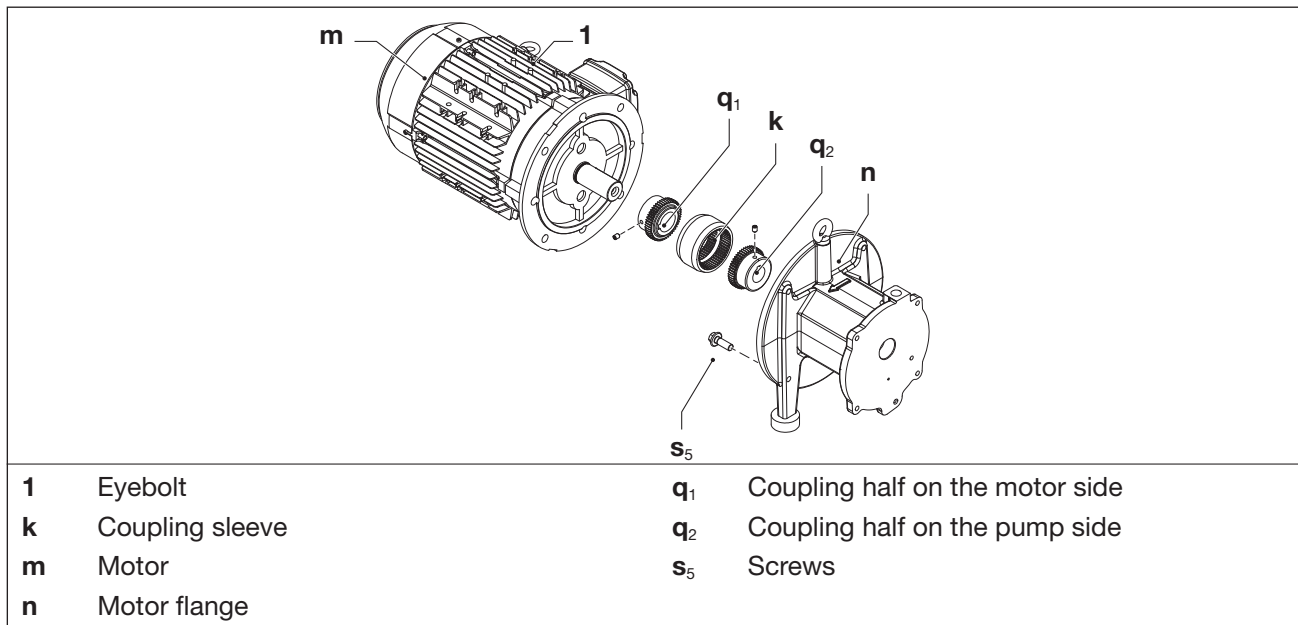

Fig. 10 Coupling
The coupling sleeve (Fig. 10/k) is subject to wear. We recommend that you check the coupling sleeve regularly (1 x per year).
- a) To check the coupling, switch off the motor (Fig. 10/m) and ensure that it cannot be switched on again.
- b) Tighten the eyebolt on the motor (Fig. 10/1) firmly.
- d) Undo the screws (Fig. 10/s₅) on the motor flange (Fig. 10/n).
- e) Remove the motor axially with the coupling half (Fig. 10/q₁) on the motor side from the motor flange (Fig. 10/n) and suspend with the lifting gear.
- f) Check the sleeve (Fig. 10/k) for damage and replace if necessary.
- g) Push the sleeve and motor with coupling half on the motor side again axially and using bolts (Fig. 10/s₅) fix to the motor flange (Fig. 10/n). Tightening torque: 90 Nm